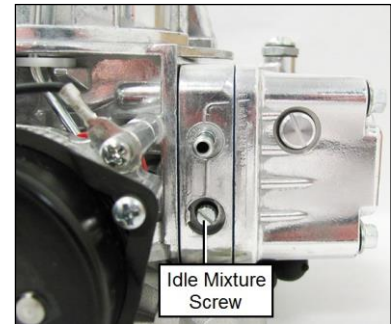

Figure 6
11. Adjust the idle fuel mixture, if necessary (Figures 6 and 7).